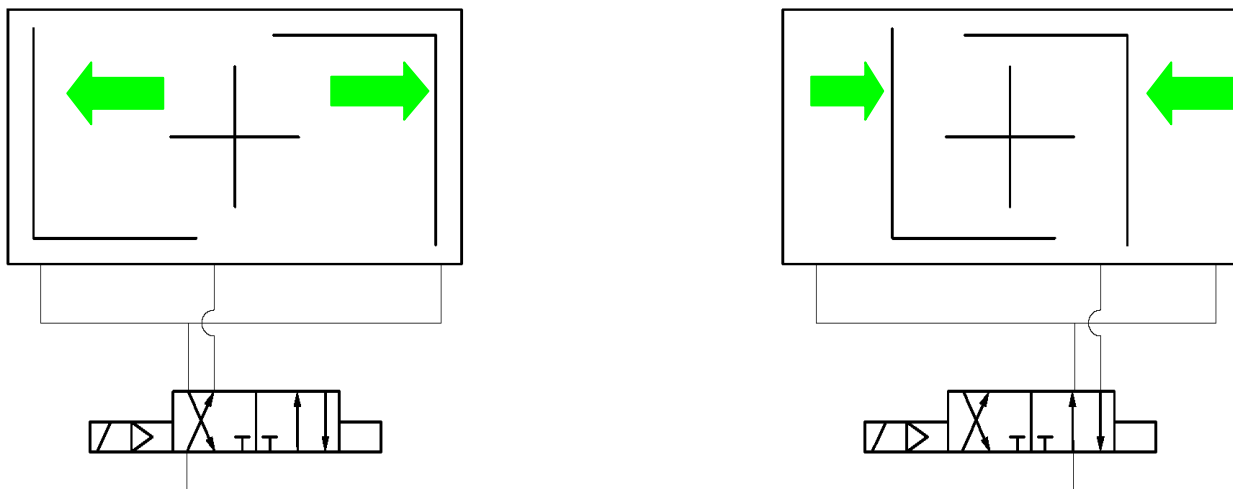

Fig. 1: Schematic diagrams for double-acting actuators EBx.1 SYD
- ▶ double-acting actuators EBx DA are shown in Fig. 1